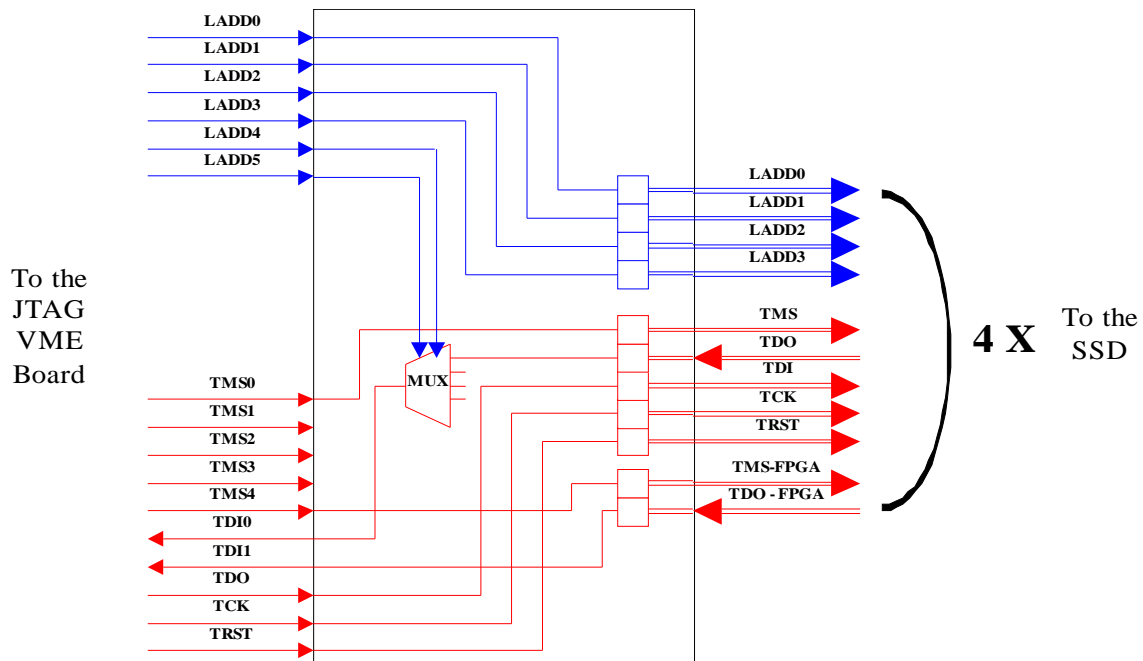

Figure 3 : Control distribution board
- Distributes the control signals coming from the JTAG & Digital I/O board to the 4 Readout and Control boards (Fig. 3).
Thus, for the multiplexing of the TDO signal and the conversion from TTL to differential pairs, a control signal distribution board is needed. The fig. 3 shows a schematic of this board.